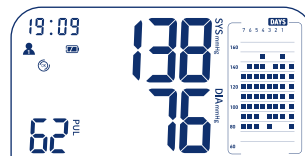

Figure 4
- Once the measurement has been taken, the cuff automatically deflates. The determined systolic, diastolic and pulse values are shown on the display (Figure 4).